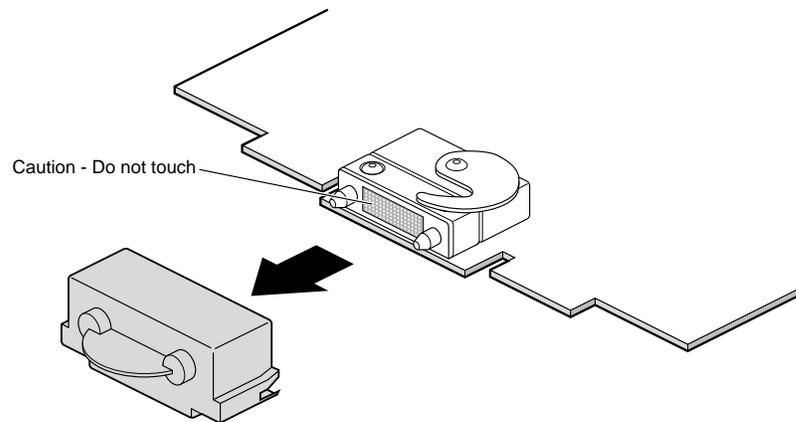

Figure 4-48 Removing the Cap from the Compression Connector
4. Remove the cap from the compression connector on the back of the PCI module, and save it for future use, as shown in Figure 4-48.